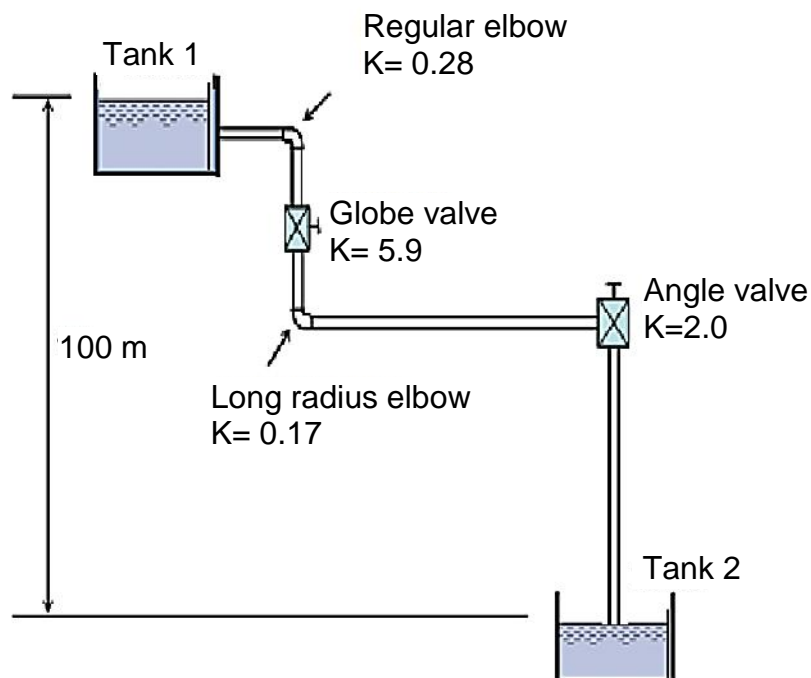

Figure 2
- (b) Water flows from Tank 1 to Tank 2 as shown in **Figure 2**. Determine the discharge in Tank 2 for the pipe characteristic as follows: